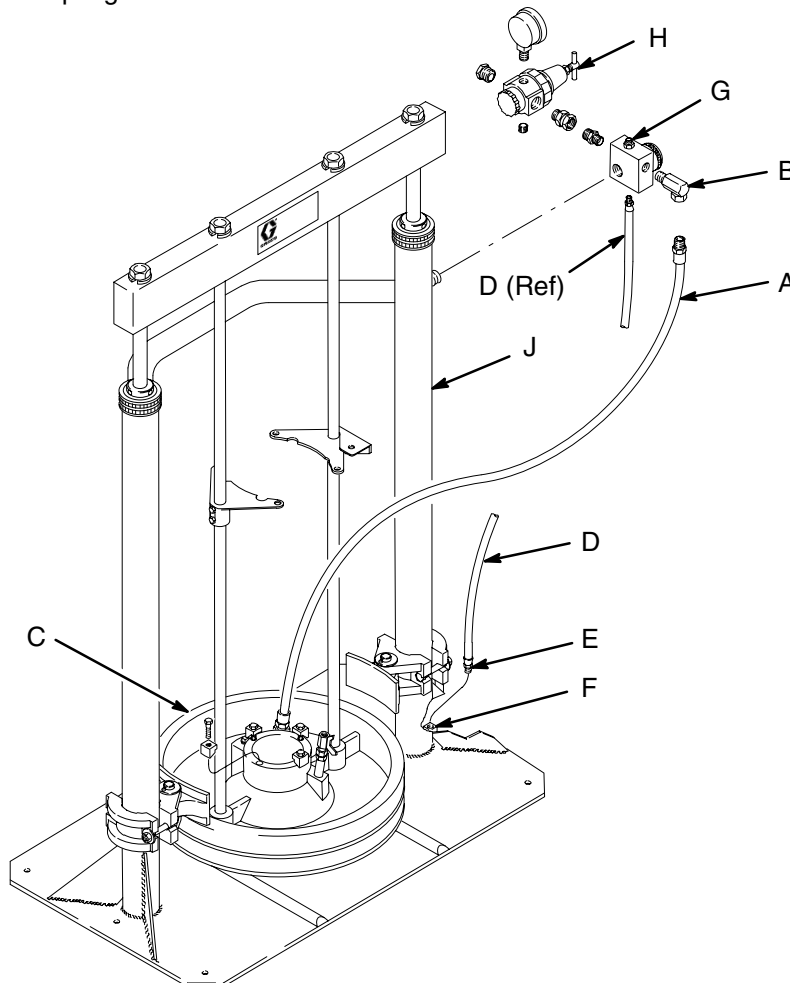

Fig. 1
2. Disconnect the air assist hose (A) from the swivel (B). Leave the other end of this hose attached to the ram plate (C). See Fig. 1.
3. Disconnect the air tube (D) and coupling (E) from the port (F) at the base of the ram. Unscrew the other end of the tube from the air director valve (G). Discard the tube and coupling.
4. Disassemble the air director valve (G), air regulator (H), and connecting parts from the ram (J). Discard these parts.